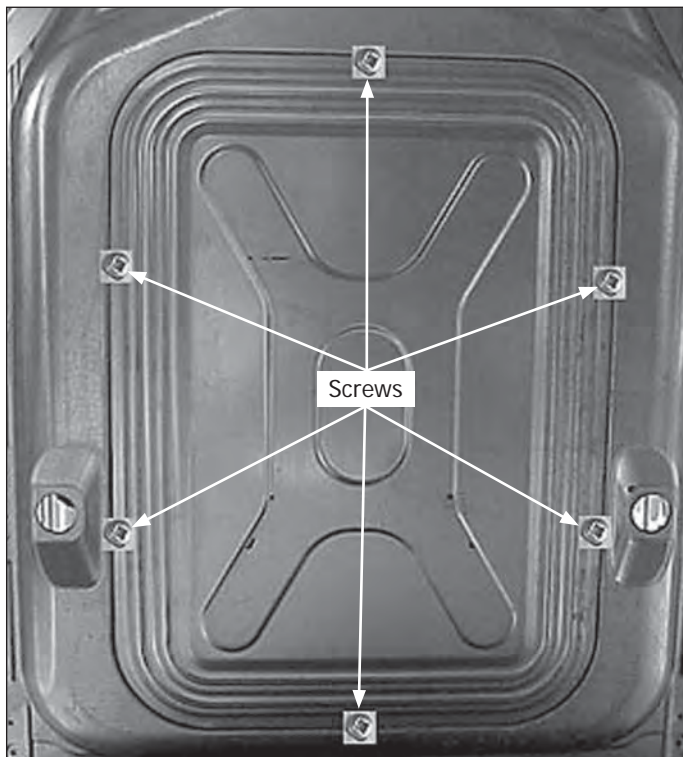

Figure 4-84.
2. Remove the (6) screws holding the rear access panel to the washer's rear panel and lift the access panel off. (See Figure 4-84)